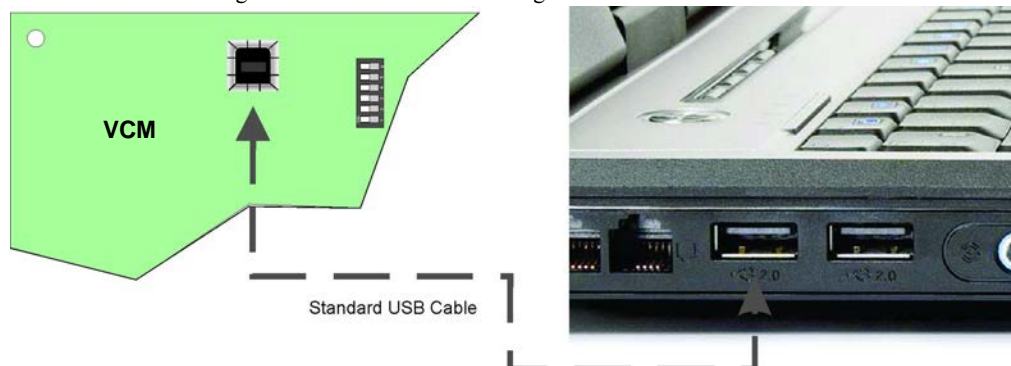

Figure 11.8 USB Cable Connections
2. Connect the PC to the VCM using a standard USB cable. See Figure 11.8.